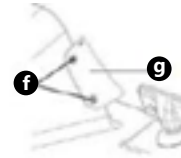

Fig. 8
- Loosen the screws (f) of the protective device (g) on the back of the slicer, using an appropriate screwdriver (fig. 8).